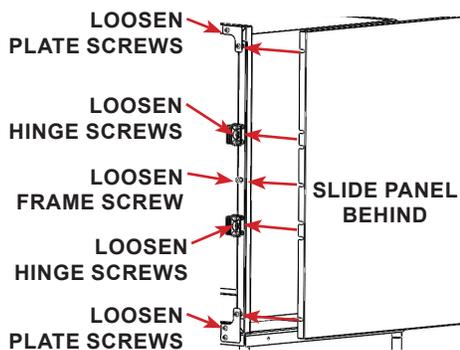

FIGURE 2.57 - End Panel Tape
- STEP 6:** Align the front flange slots with the screws in the cage frame, behind the trim plates and hinge/latch hardware. Lift cage to slide the panel under the front cage frame. Push the end panel against the side of the cage and push the front flange against the cage frame. See FIGURE 2.57